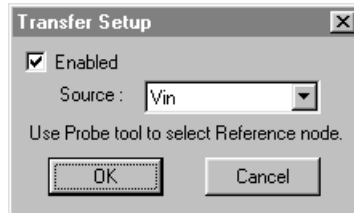
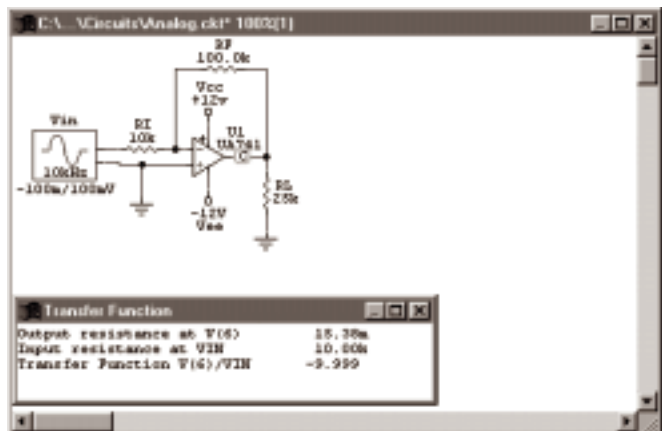

Figure 6.20. Use this dialog box to set up a Transfer Function Analysis.
Figure 6.21. Transfer Function Analysis data.
- 2 Click the **Transfer** button to display the dialog box pictured in Figure 6.20.
The waveform data in Figure 6.21 was generated by simulating the ANALOG.CKT circuit using the values shown in Figure 6.20. This analysis shows the gain from the specified source to the output (the point you click with the Probe Tool). Notice that it shows DC resistance seen by the source and the DC resistance seen by the output load.